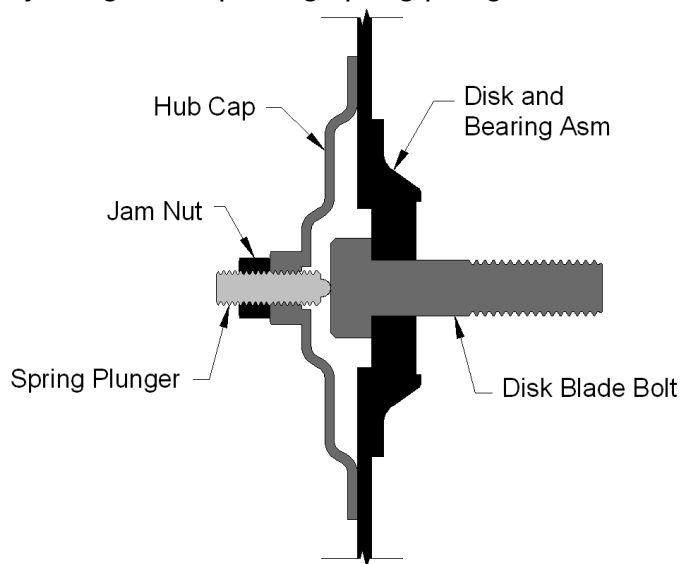

Figure 3.6
2. If ohms jump over 2 ohms when the blade is rotated, and you were careful to maintain good contact between the lead and the blade, the problem is likely inside the hub. Because electrical signals cannot be sent consistently through the disk bearing, Veris has designed a more reliable path for the EC signal to travel. A special hub with a spring plunger presses against the bolt through the bearing, serving as a commutator. Shown below in Figure 3.6 is a view of the hubcap and plunger assembly. When ohm readings jump during blade rotation, it is due to the balls on the bearing making intermittent and inconsistent contact. See Maintenance and Service procedure #4: Spring Plunger adjustment and replacement on adjusting and replacing spring plungers.